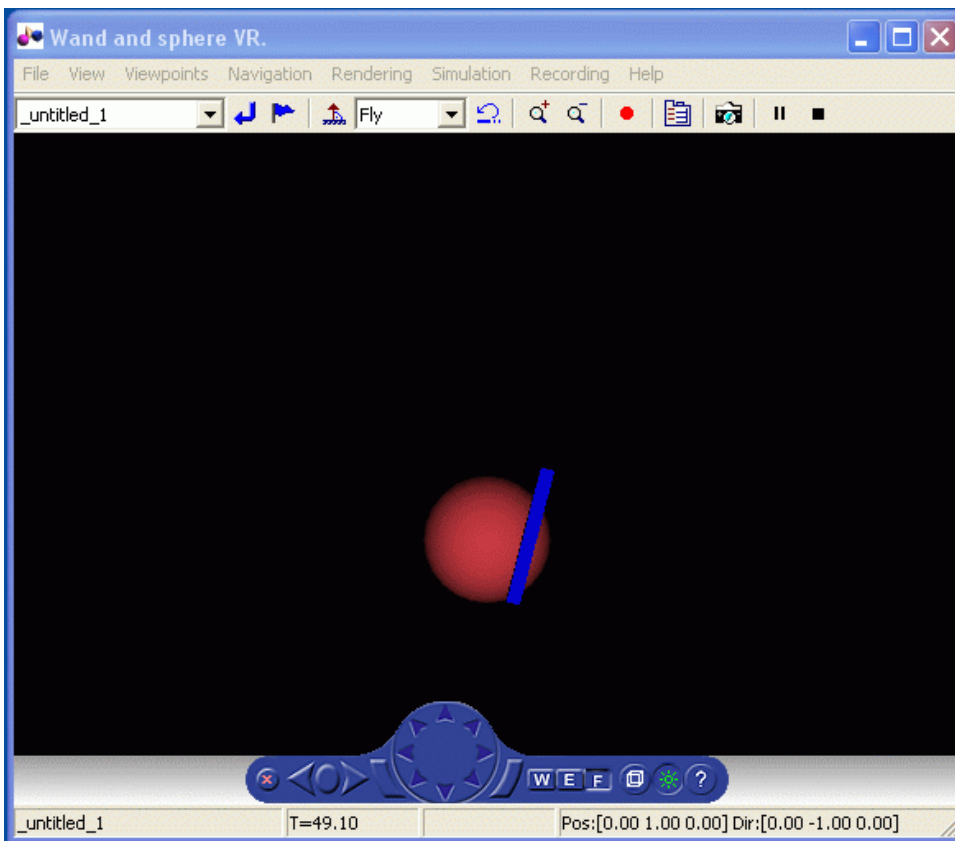

Figure 14: HD² and sphere virtual reality window.
Executing this file requires the Matlab Virtual Reality Toolbox. When QuaRC is running, the virtual environment in Figure 14 loads. The *virtual HD² handle* is controlled by the HD² end-effector on the haptic device. When the sphere is touched through the middle point and the two ends of the end-effector handle, a force feedback control allows the user to feel a slightly spongy sphere.
Step 13. Click on the *Run* button in the Simulink model tool bar to begin running the controller. The VR Sink window shown in Figure 14 should load.